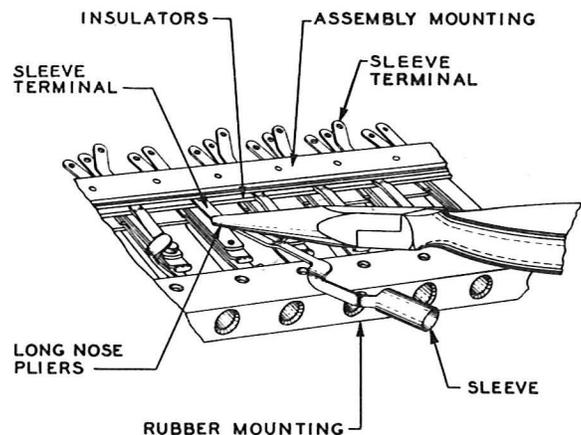

Fig. 7 - Method of Forcing Sleeve Terminal into Assembly Mounting in 92- and 292-type Jacks
3.14 On 92- and 292-type Jacks: Force the sleeve terminal into the assembly mounting from the front with the long-nose pliers as shown in Fig. 7 until the front end of the sleeve just clears the back of the rubber mounting. Exercise care not to crack the insulators. If the sleeve terminal has been forced through the assembly mounting as far as possible, and if in this position the front end of the sleeve does not clear the back of the rubber mounting, increase the offset in the sleeve terminal